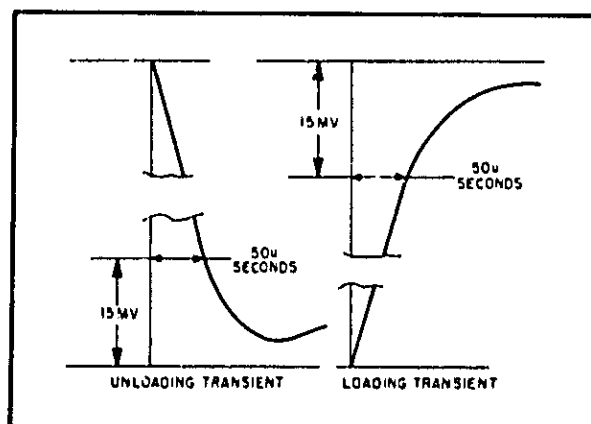

Figure 5-8. Transient Recovery Time, Waveforms
- Starting from the major graticule division representative of time zero, count to the right 50μsec and vertically 15mV. Recovery should be within these tolerances as illustrated in Figure 5-8.